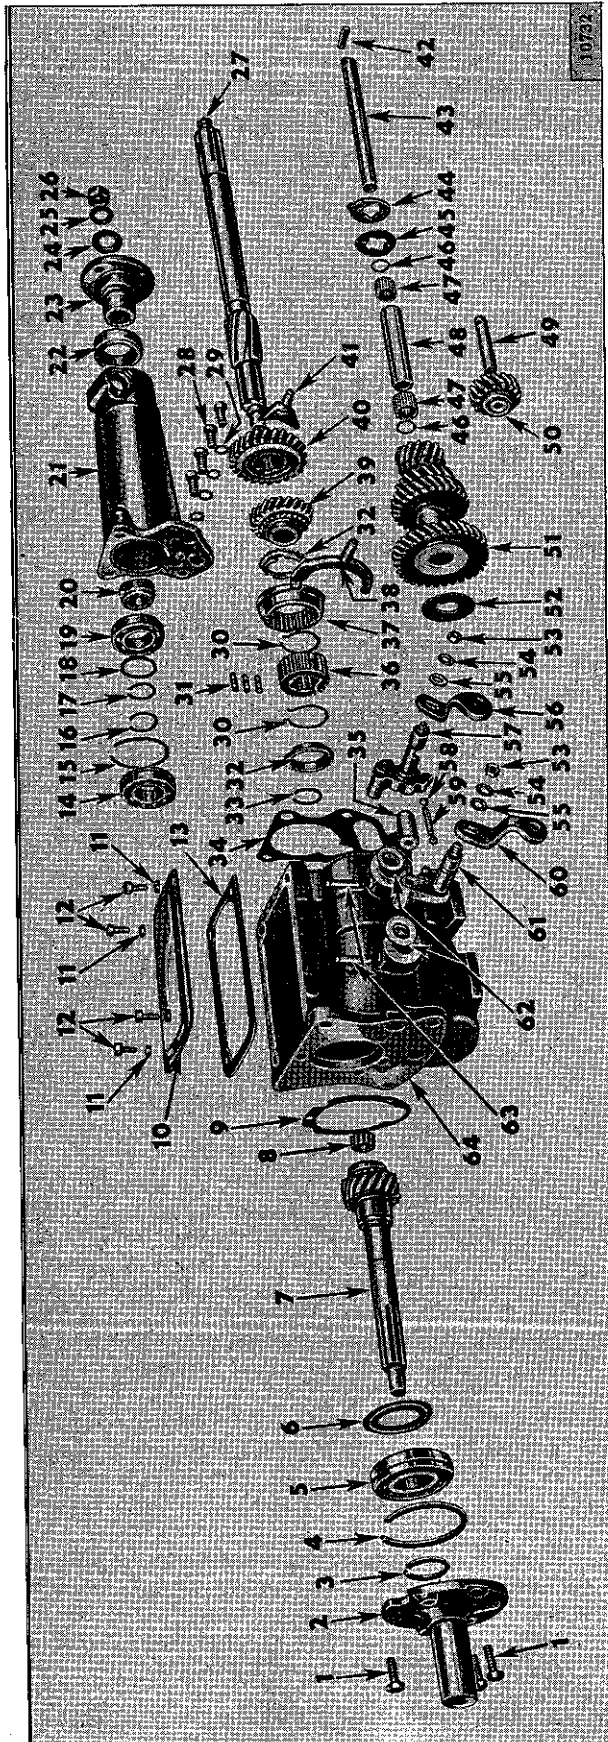

FIG. 212—STANDARD TRANSMISSION—2-WHEEL DRIVE—WITHOUT OVERDRIVE
a. Remove the four screws from the transmission case cover (Fig. 212, No. 10). Remove the cover and gasket.
c. Remove the screws from the front main bearing retainer (2) and remove retainer.